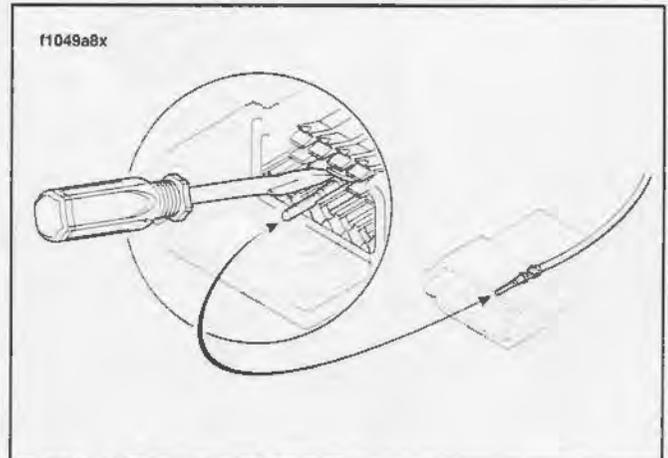

Figure A-7. Depress Terminal Latches/Back Out Pins
A 12-pin connector is illustrated in Figure A-7 to show the various parts of the Deutsch connector. The following instructions may be followed for all 2-pin through 12-pin Deutsch connectors.
2. See Figure A-7. Gently depress terminal latches inside socket housing and back out sockets through holes in rear wire seal.